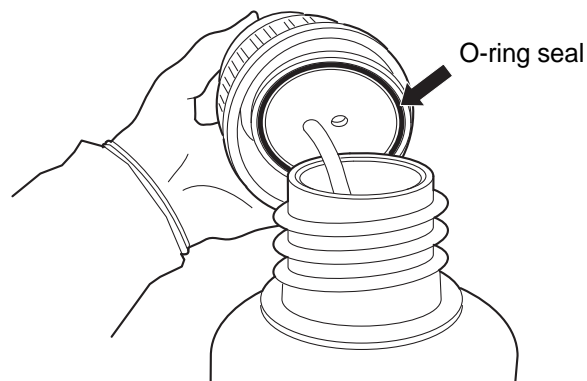

Figure 8-10 Inspect Waste Bottle O-Ring Seal
4. Before reattachment, inspect the O-ring seal on the inside of the waste cap for debris. See Figure 8-10.